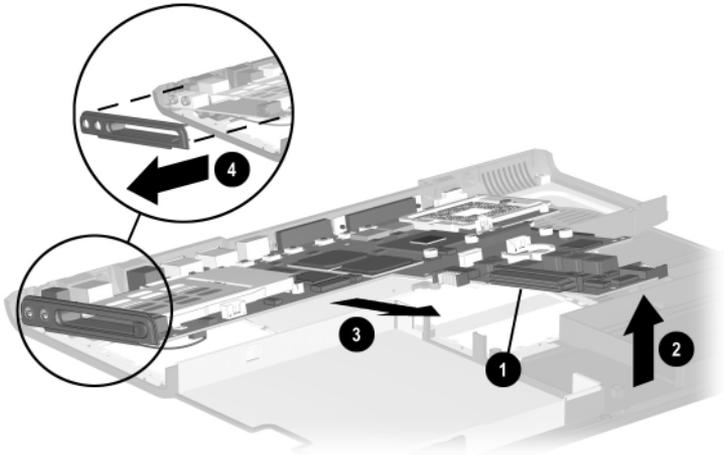

Figure 5-35. Removing the System Board
7. Use the MultiBay connector ❶ to lift ❷ the front of the system board until the board rests at an angle (Figure 5-35).
8. Slide the system board forward at an angle ❸ and remove it from the base enclosure.
9. Remove the PC Card bezel ❹ from the system board.